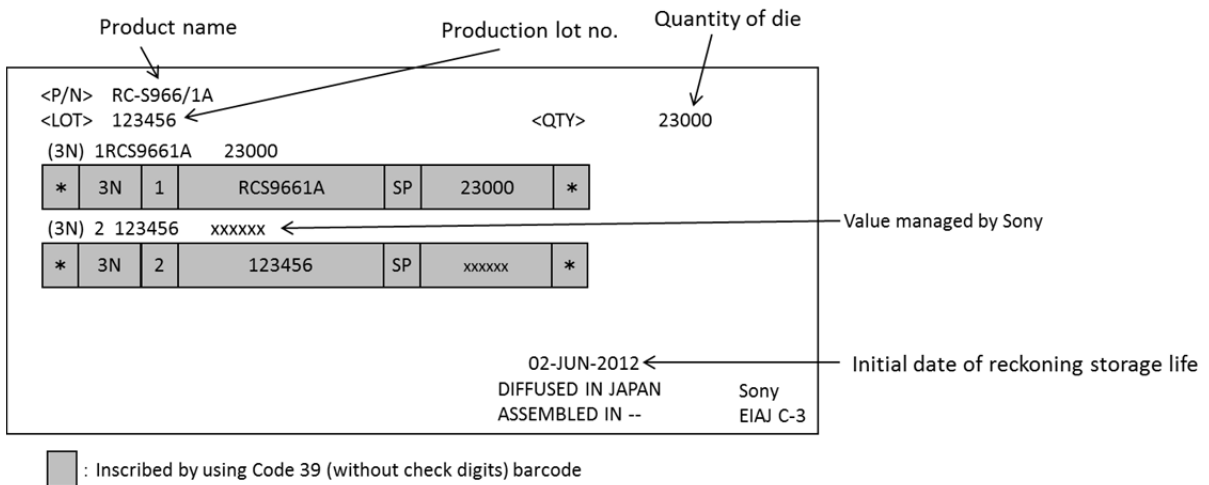

Figure 7-5: EIAJ C-3 label (example)
- 5) EIAJ C-3 label (See Figure 7-5) is attached to the side of the sealed bag.
- 3) EIAJ C-3 label (See Figure 7-5) is attached to the side of the outer carton package.